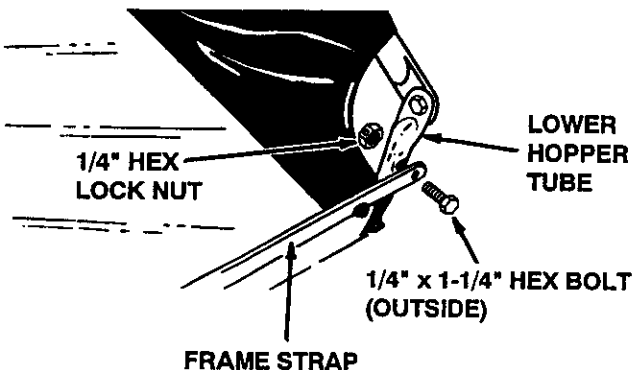

FIGURE 13
- Assemble the frame strap to the lower hopper tube using two 1/4" x 1-1/4" hex bolts and 1/4" hex lock nuts. **Tighten.** See figure 13.